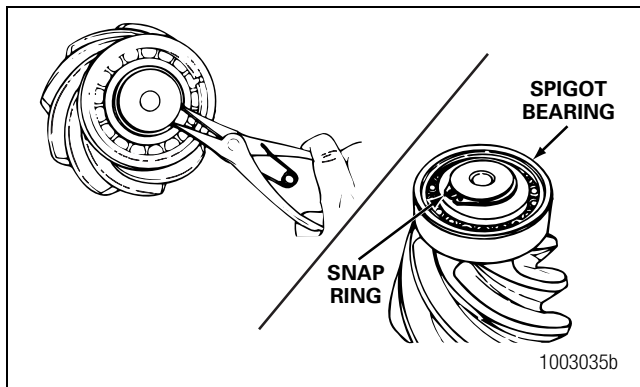

Figure 5.4
3. Use snap ring pliers to install the snap ring, if equipped, into the groove in the end of the drive pinion. Figure 5.4.